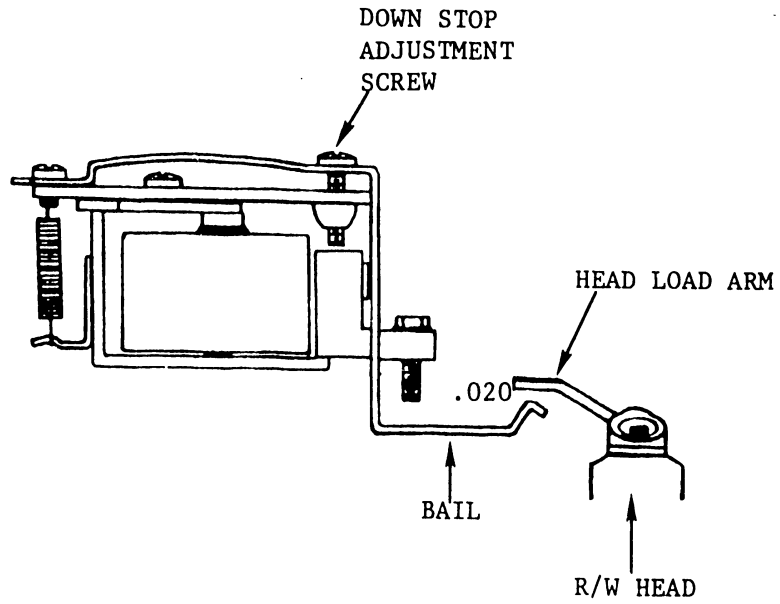

FIGURE 5-6
- f) Adjust the DOWN stop on the actuator so there is .020" + or - .010" clearance between head load bail and head load arm. (See Figure 5-6.)